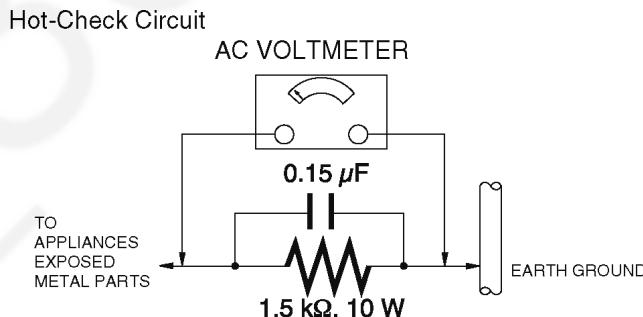

Figure. 1
1.3. Leakage Current Hot Check (See Figure 1.)
2. Connect a $1.5\text{k}\Omega$, 10W resistor, in parallel with a $0.15\mu\text{F}$ capacitor, between each exposed metallic part on the set and a good earth ground, as shown in Figure 1.